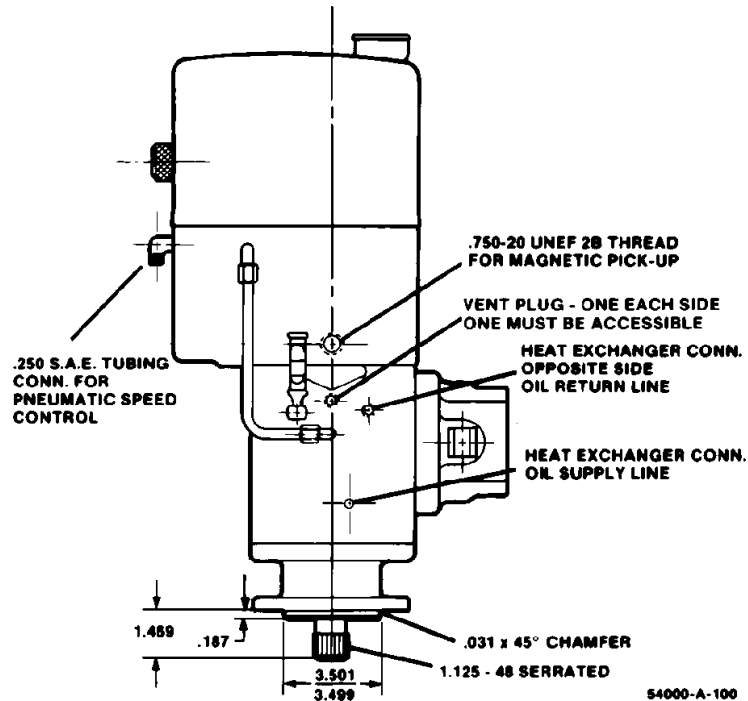

Figure 4. Outline Drawing of PG-PL Governor (shown with 12 ft-lb linear servo-horizontal)
4. Loosen the vent plug (see **CAUTION** below) on the side of the governor case (see Figure 4) enough to establish an oil leak.